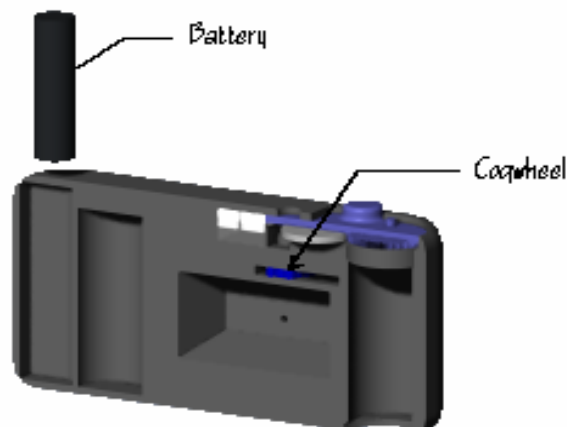

Figure 2
- f. At the back of the camera, just above the exposure chamber, you'll see a small-toothed wheel that is attached to a part of the shutter mechanism (see Figure 2). This cogwheel engages the film when the camera is loaded. As the user advances the film between shots (using the large thumbwheel on the right), the small wheel rotates the cam to which it's attached, which causes several other actions to occur. **Do not remove any other parts of the camera. Doing so will expose you to a 300V shock hazard.**